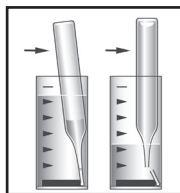

Figure 3
4. Place the CHEMmet ampoule, tip first, into the sample cup. Snap the tip. The ampoule will fill leaving a bubble for mixing (fig. 3).